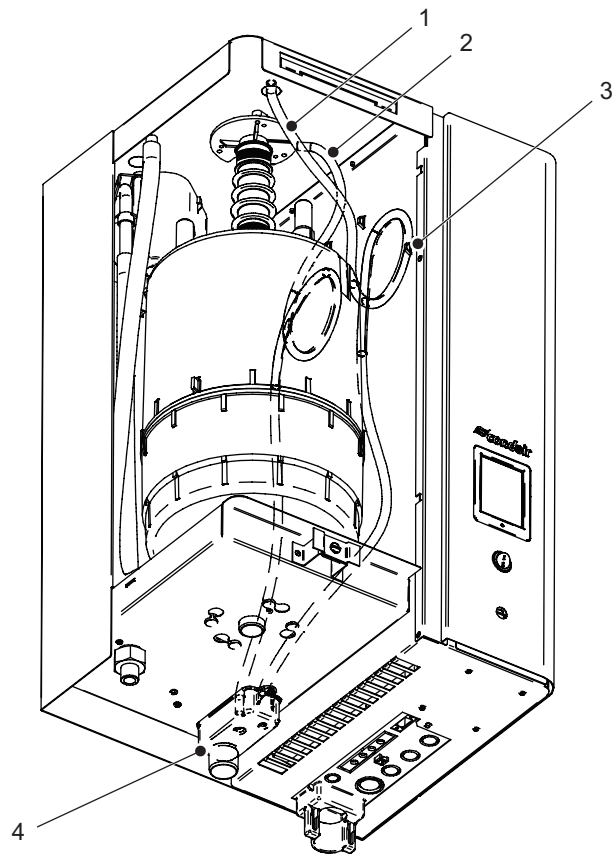

Figure 21: Condensate Hose Connections on Humidifier
- a. Connect the 8/12 mm diameter condensate hose (supplied) to the connection point provided in the humidifier drain cup. Secure the hose with a spring clamp (supplied). Refer to Figure 21.